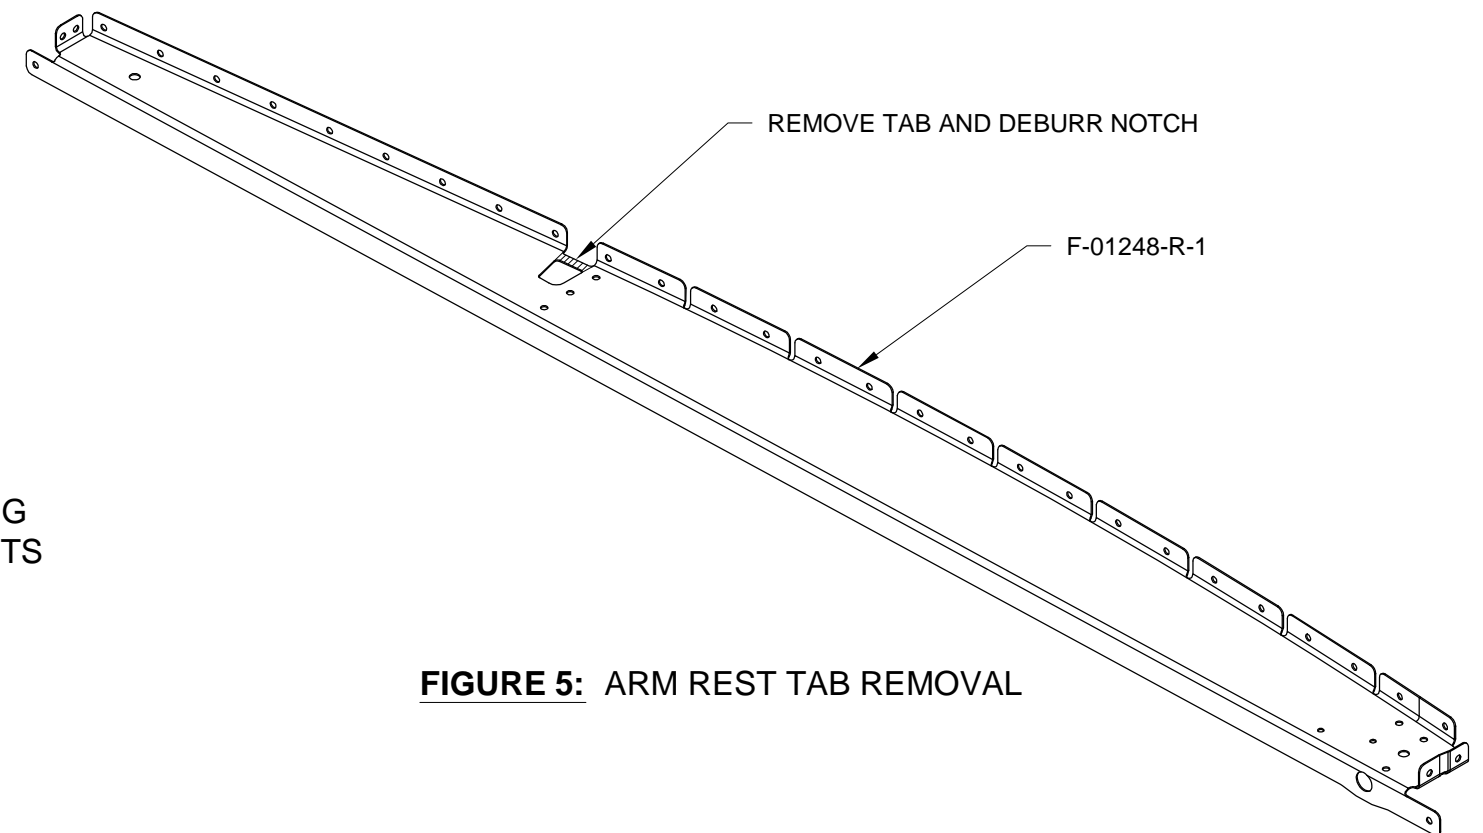

FIGURE 5: ARM REST TAB REMOVAL
Step 8: Remove the tab from the notch in F-01248-R-1 as shown in Figure 5.